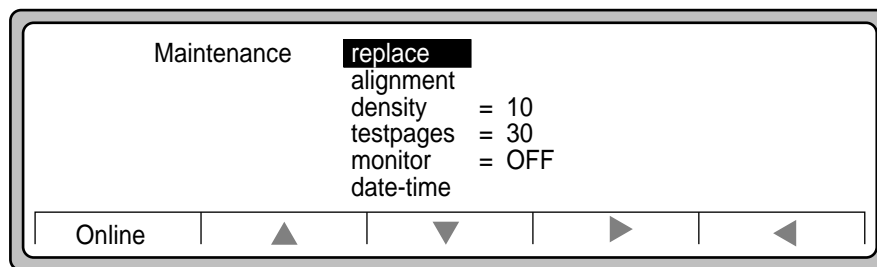

Figure 4-10 Maintenance selections
- Use ► to display Maintenance selections as shown in Figure 4-10.